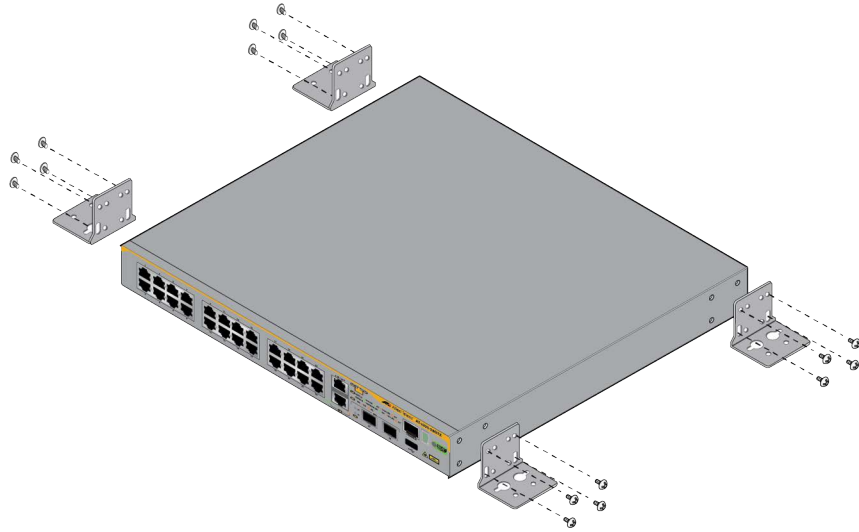

Figure 55. Attaching the AT-BRKT-J24 Wall Brackets to x330-20GTX and x330-28GTX Switches
2. For x330-20GTX and x330-28GTX Switches, attach the four AT-BRKT-J24 wall brackets to the sides of the switch, with the sixteen M4x6mm screws included in the brackets kit. Refer to Figure 55 on page 106.